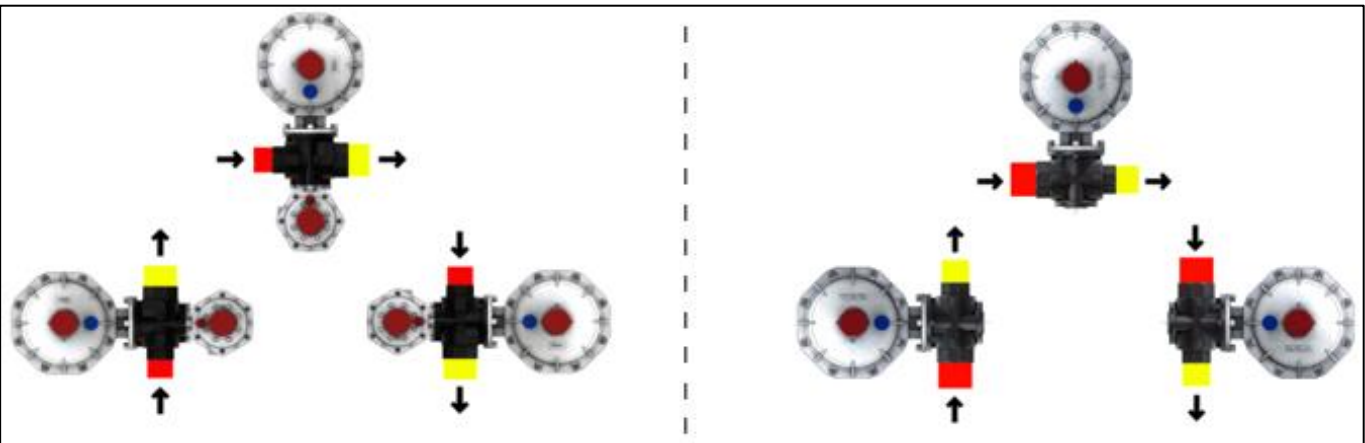

Figure 3
- Install the product in horizontal or vertical position with a tolerance of  $\pm 5^\circ\text{C}$  at the appropriate mounting position as shown in figure 3. However, it should be preferred to install in such way that the cover shall be vertical with an upwards direction. The mounting position for dry gases may be vertical or horizontal provided that the outlet pressure regulation part shall not be downwards and mounting position for LPG shall in such way that the regulator's outlet side shall be downwards.